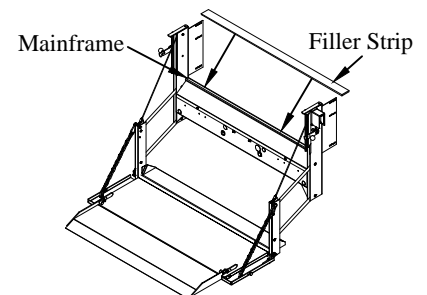

Figure 8: Filler strip location (Original Series).
1. **Weld** the supplied filler strip (12ga.x1-1/4"x58-1/2") to the top corner of the liftgate mainframe (Figure 8).